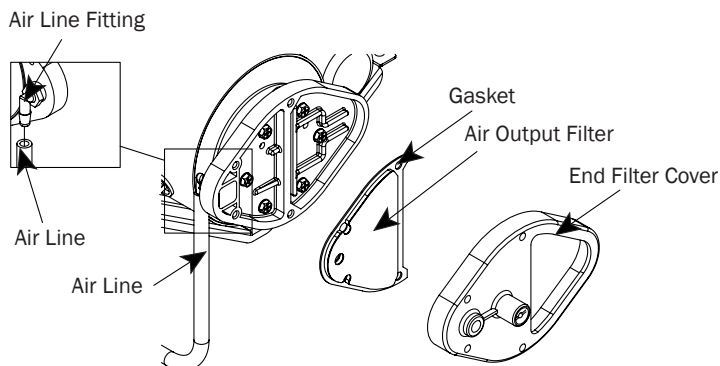

Figure 14 - Check Air leaks around Pump.
- Remove air line from air line fitting (See Figure 14) and from nozzle adaptor.(See Nozzle, page 14)